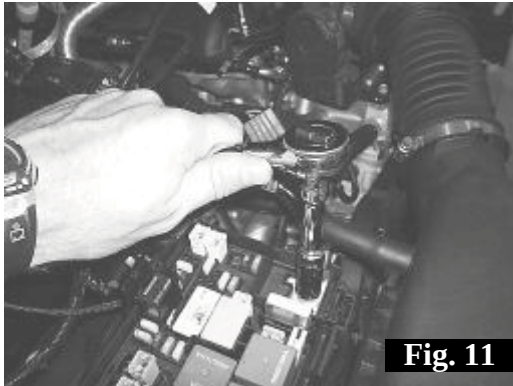

Fig. 11
16. Remove the top of the fuse cover and using a 13mm socket and ratchet loosen and remove the nut on the positive battery accessory lug. Fig. 11